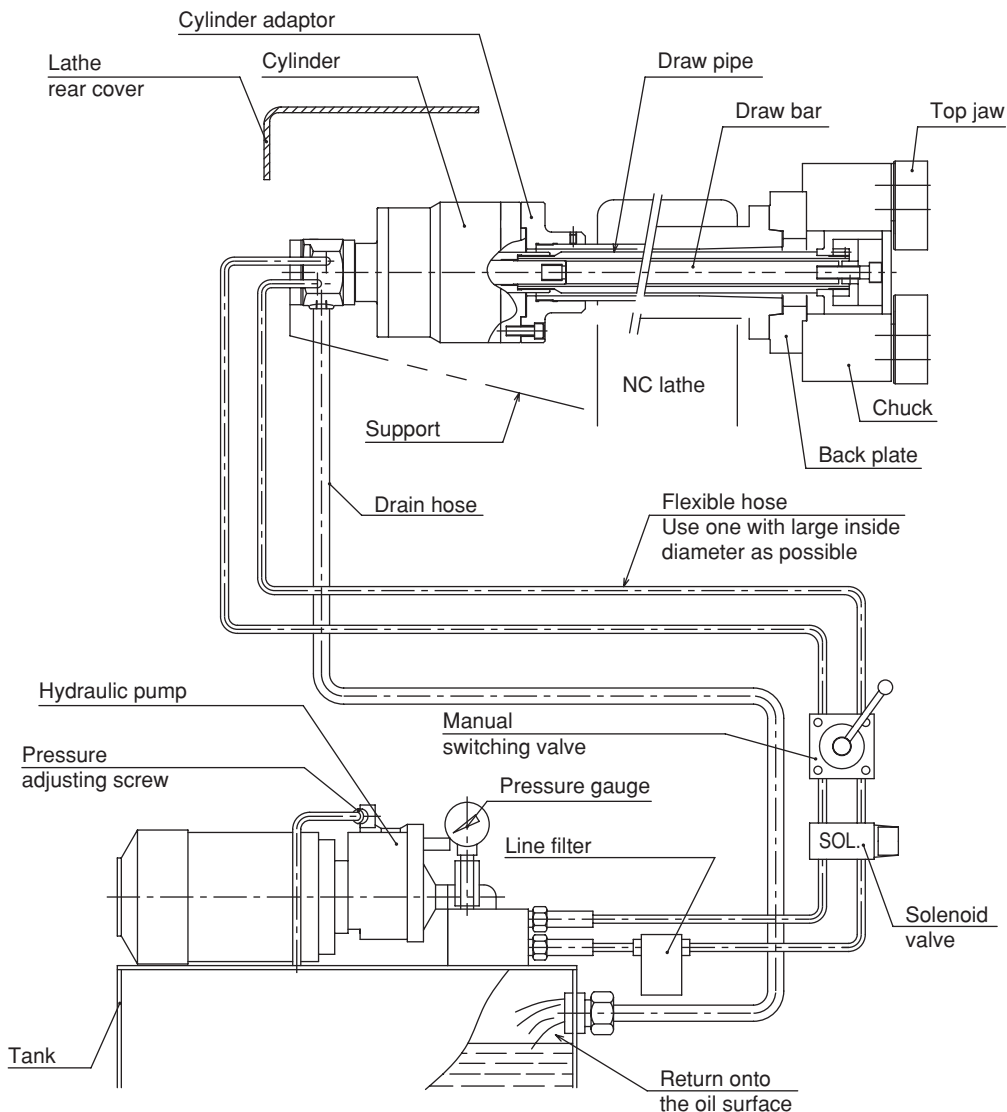

Fig.15
- The end of the hose is physically above the oil level. (Refer to Fig.15)